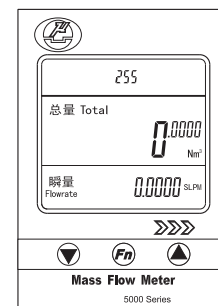
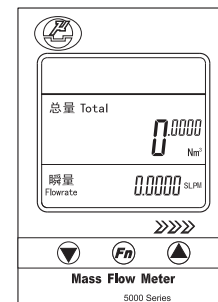

Figure 6-9 Multi-device communication mode
Figure 6-10 Single-device communication mode
(4) Communication Modes switches (Figure 6-9, Figure 6-10)
- Set the address of the meter(value of **SEt Addr**) as (3).E. such as 255;
- Set the meter to *Multi-device communication mode* (select value of **PrOTOCOL** to P1-255 or P2-255) as (3).D;
- Set the meter to *Signal-device communication mode* (select value of **PrOTOCOL** to P0-000) as (3).D;